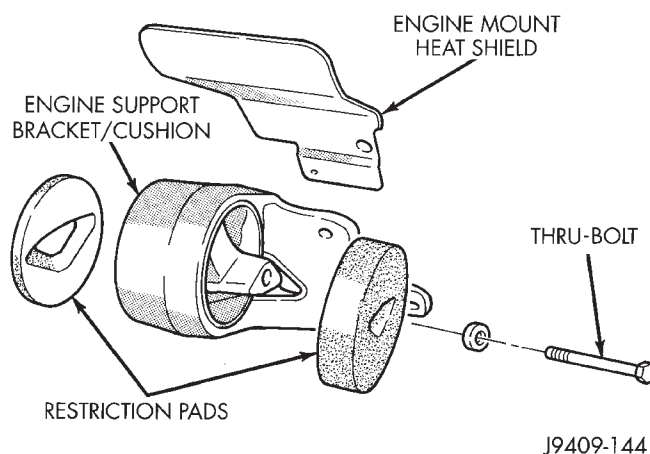

Fig. 14 Engine Front Mounts
- (3) Install engine support/lifting fixture.
- (4) Raise vehicle on hoist.
- (5) Lift the engine **SLIGHTLY** and remove the thru-bolt and nut (Fig. 14).
- (6) Remove engine support bracket/cushion bolts (Fig. 14). Remove the support bracket/cushion and heat shields.